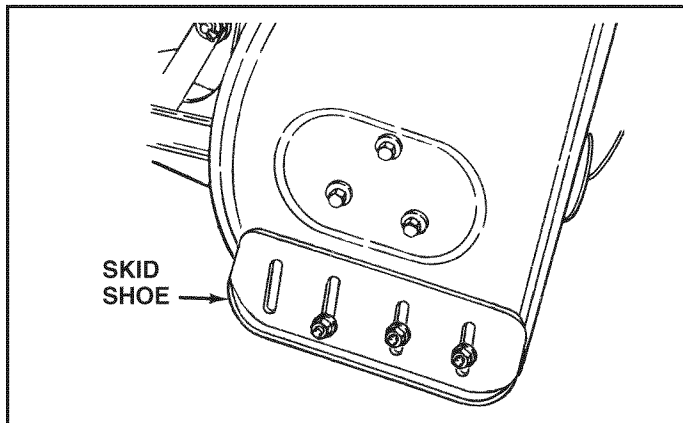

FIGURE 27
(Refer to figures 27 and 28 on page 18.)
- Raise the snow thrower off the ground and place a block under each end of the scraper plate. Loosen the six hex nuts securing the skid shoes to the housing. Adjust the skid shoes up or down and retighten the nuts securely. Adjust both skid shoes to the same height to keep the housing and the scraper plate level. See figure 27.